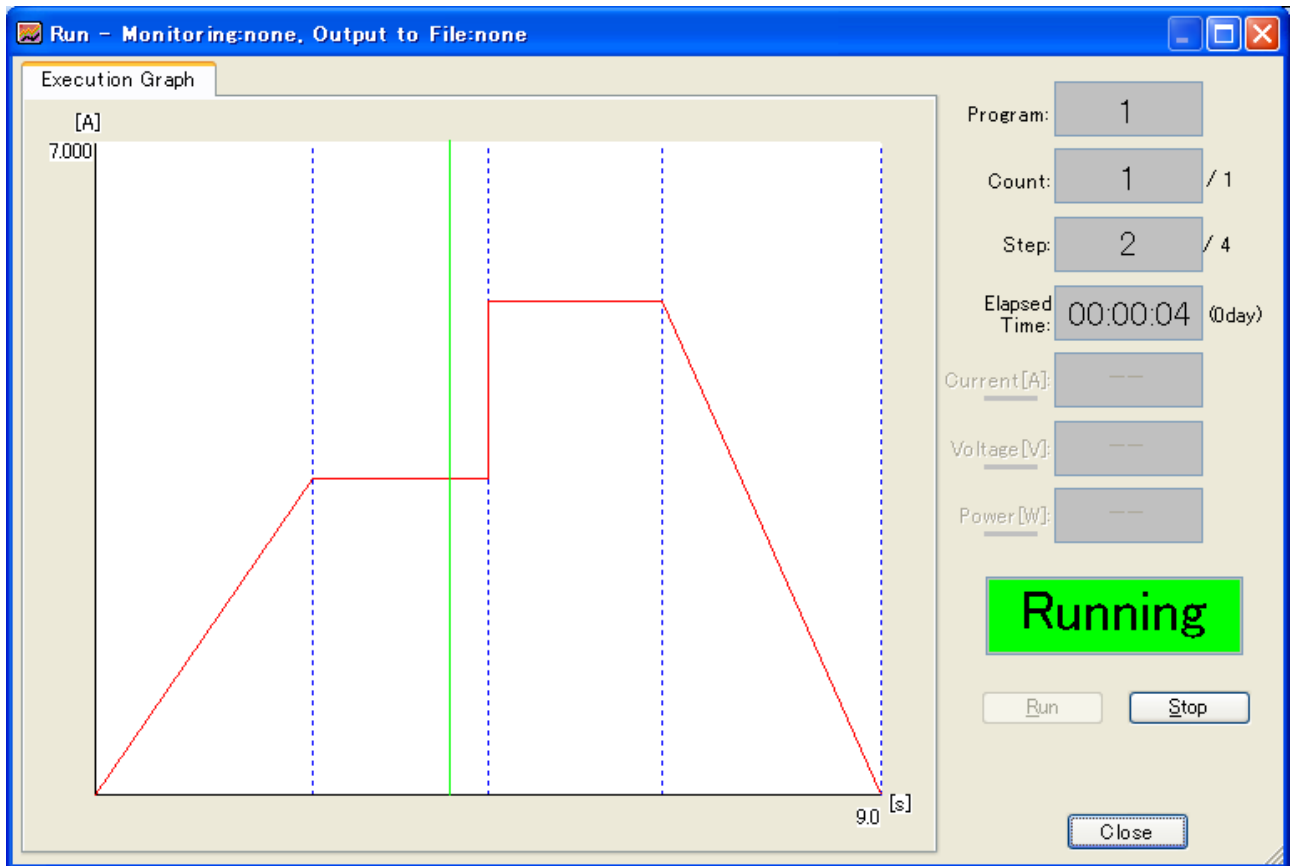

Fig. 6-4 Sequence Being Processed
Fig. 6-4 shows the screen displayed during processing of a sequence.
- * The position line (green vertical line in Fig. 6-4) indicates the approximate position of the sequence being processed.